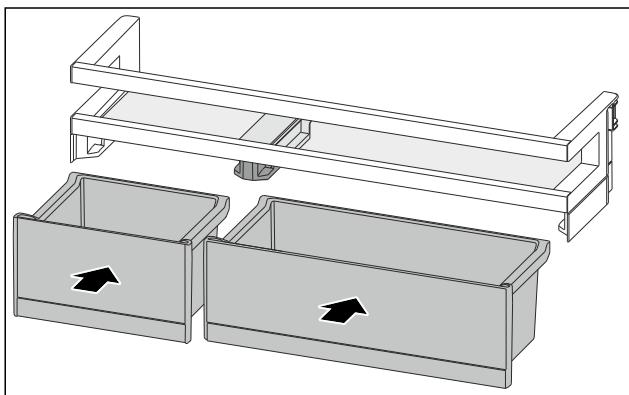

Fig. 119
- ▶ Insert the VarioBoxes in reverse order. (see Fig. 119)